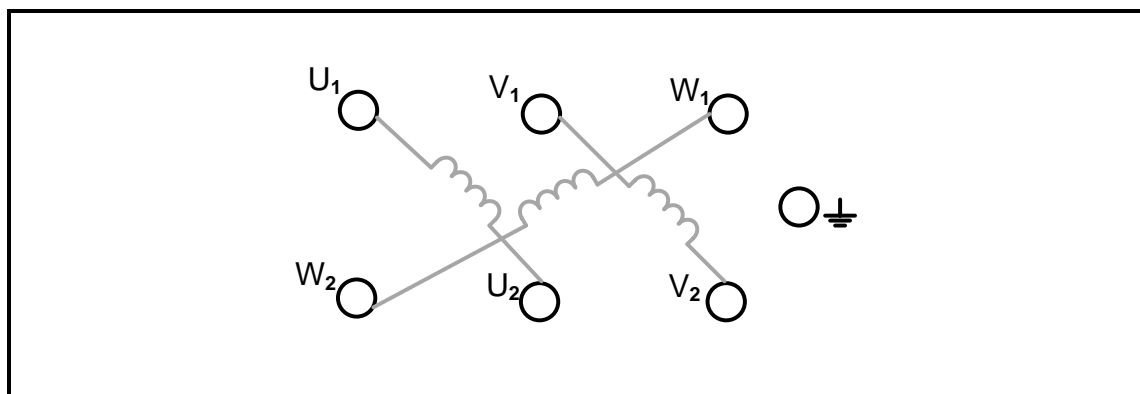

FIGURE 6.5: TERMINAL BOX
- 6.5 FIGURE 6.5 shows the terminal box of a three-phase motor. Redraw the terminal box in the ANSWER BOOK and indicate how the motor can be connected in delta. (3)